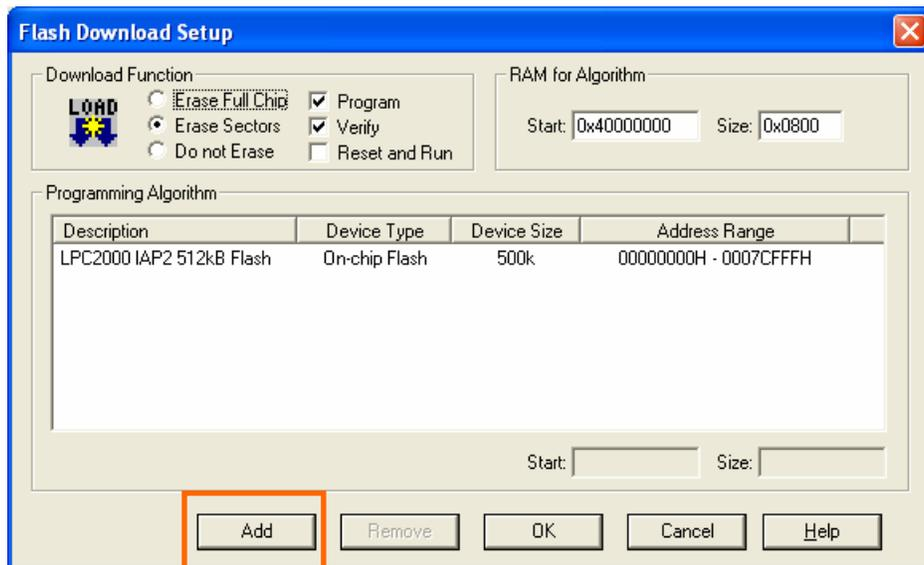

Figure 2-6. μVision3 Flash Download Settings
3. Press OK in the settings dialog and switch to the “Utilities” tab. Select the “Use Target Driver for Flash Programming” radio button and select “ULINK ARM Debugger” in the drop-down menu. Press the “Settings” button. A dialog should appear, as shown in Figure 2-6. Add the appropriate flashloader (as has already been done in Figure 2-6) by selecting the “Add” button and choosing “LPC2000 IAP2 512kB Flash” in the list. This flashloader will then appear in the listbox in the “Flash Download Setup” dialog.